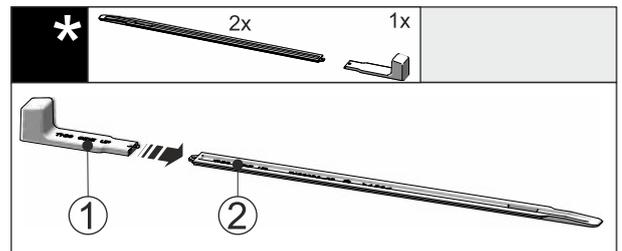

Fig. 44
- ▶ Insert the mounting handle Fig. 44 (1) into the leveling rail Fig. 44 (2).